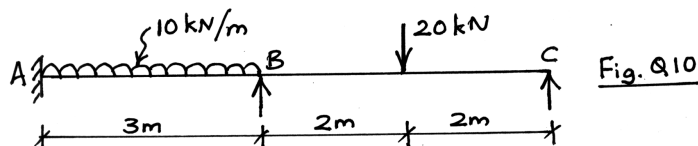

Fig. Q10
10. Analyse the continuous beam shown in Fig. Q10 by direct stiffness method. Take; $E = 20 \text{ GPa}$ and $I = 15 \times 10^8 \text{ mm}^4$ for all members. Sketch BMD and elastic curve.